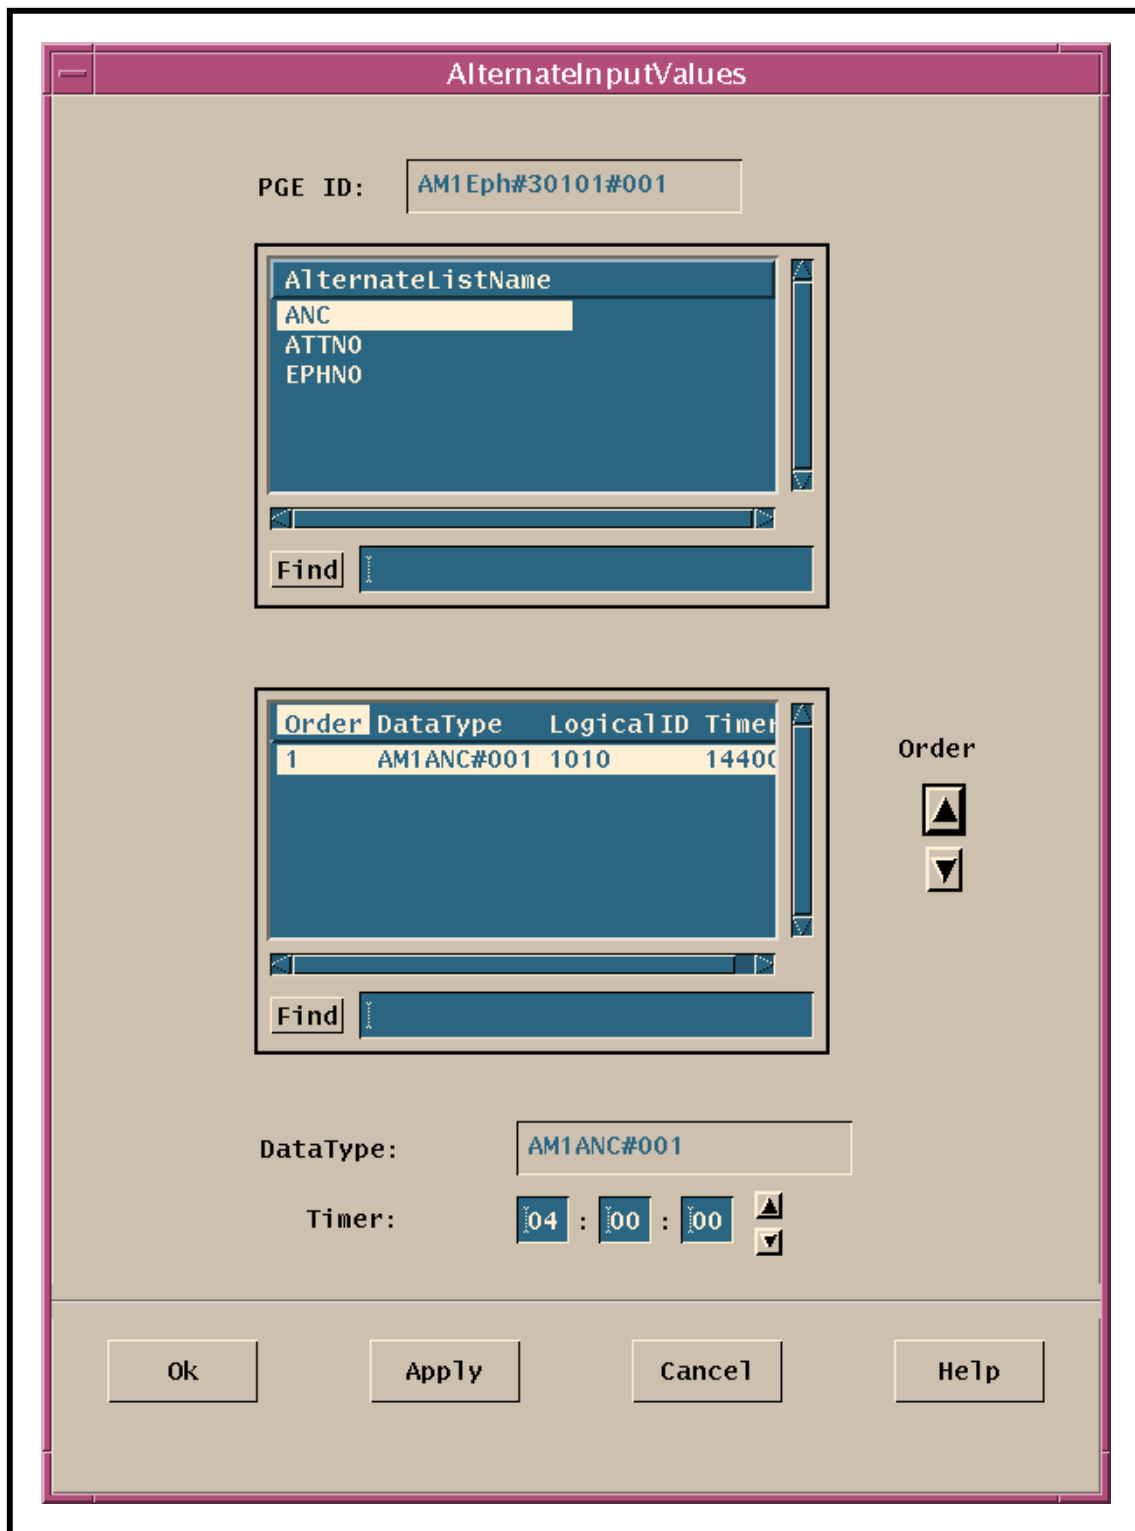

Figure 22. AlternatInputValues GUI
- The **AlternateInputValues** GUI page (Figure 22) is displayed.